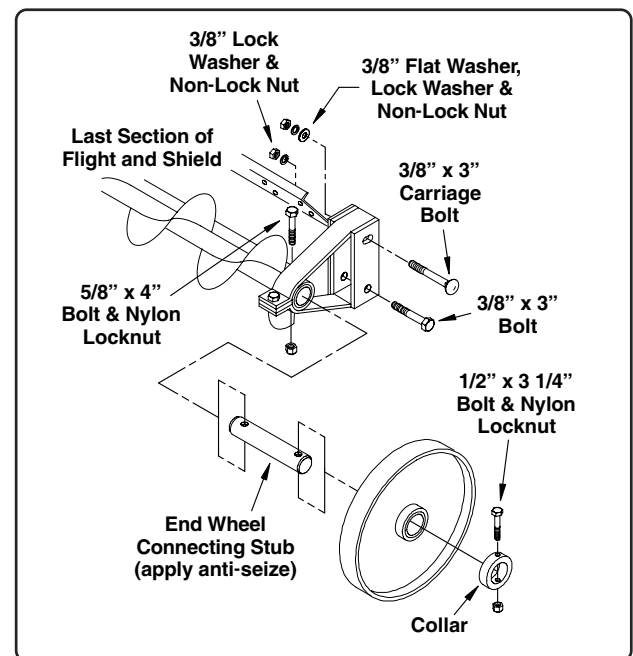

Fig. 11
- Position a bearing stand onto the end of the last shield and secure with the 3/8" x 3" carriage bolt and standard bolt as before (See Fig. 11). Apply anti-seize compound to the end wheel connecting stub. Insert the stub into the flight and secure using one 5/8 x 4" bolt and nylon locknut.
5. Install the end wheel as outlined in Step 8 and shown in Fig. 11 on the previous page (Page 21).